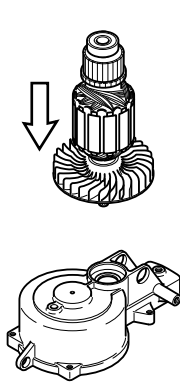

Fig. 28
1. Assemble armature to gear housing as illustrated in Fig. 28.